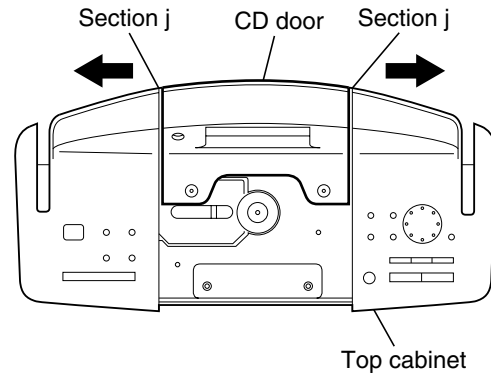

Fig.25
■ Removing the display board assembly (See Fig.25 to 27)